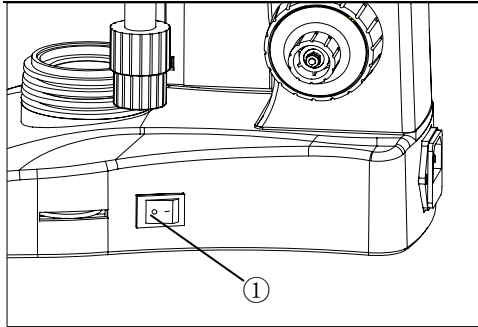

Fig.8
2.2.5 Connecting the power cord (Fig.8, 9,10)
2.2.6 Replacing the Fuse (Fig.8、9、10)